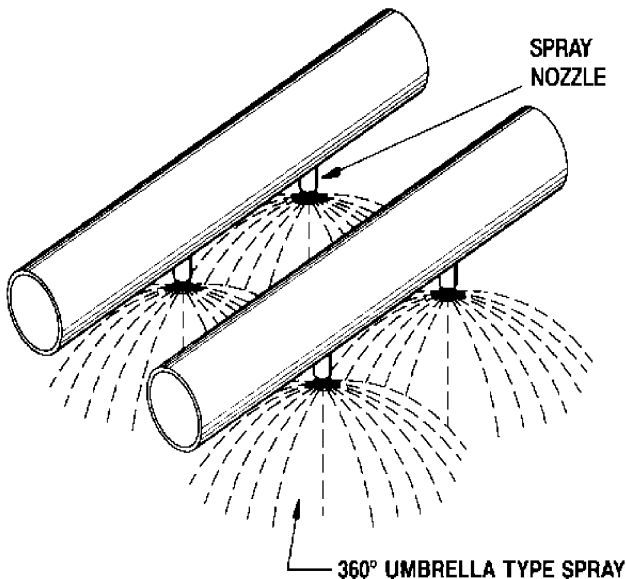

FIGURE 7. NOZZLE SPRAY DISTRIBUTION
- c) Check to see if the nozzles are producing the spray pattern shown in Figure 7.